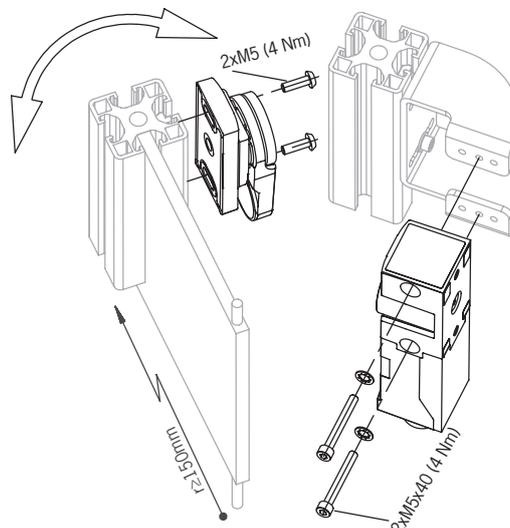

Fig. 2: Installation example
- › Observe the min. door radii (see Fig. 2: Installation example on page 10).